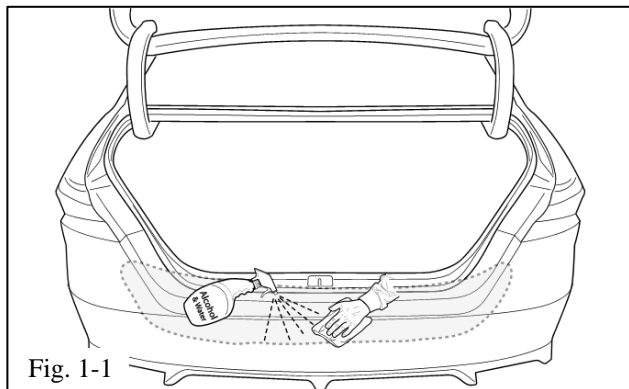

Fig. 1-1
- (c) Clean the entire application surface to remove grease and wax. Clean the entire area with a VDC-approved cleaner and cleaning method (Fig. 1-1)